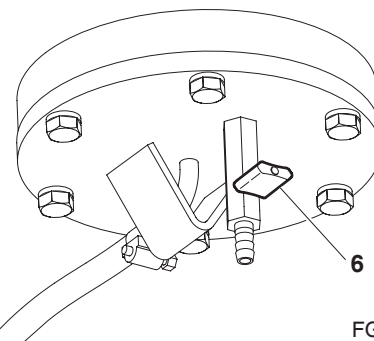

Figure 21
12. Make sure fuel tank drain valve (6, Figure 21) on bottom of tank is closed.